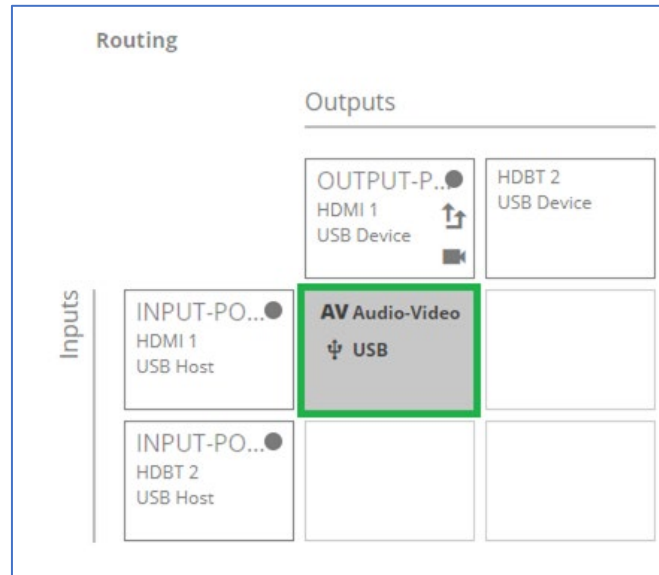
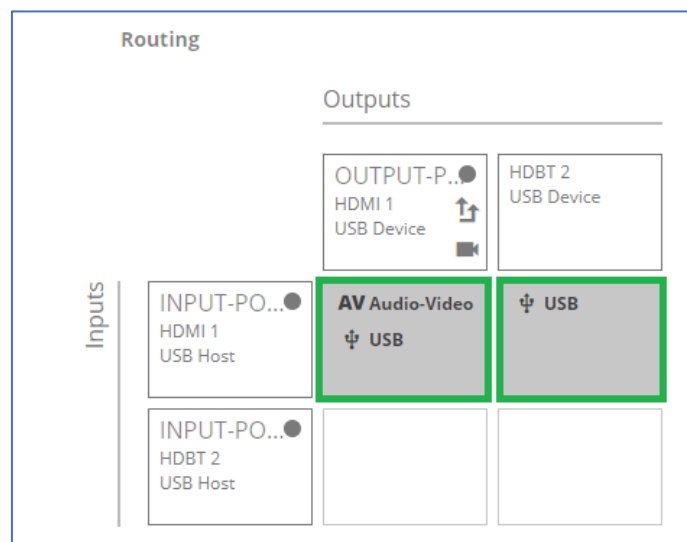

Figure 14: Selecting Local Active Host for Connection to Local USB Devices Only
Figure 15: Selecting Local Active Host for Connection to both Local and Remote USB Devices
Outputs: 1xHDBT, Mirrored 1xHDMI	Output Devices: 3xUSB-A (local) + Rx USB devices (remote)  USB local devices are always connected to active Host. Remote USB devices connection to local active Host is configurable (see <a href="#">Figure 14</a> & <a href="#">Figure 15</a> ).
Outputs: 1xHDMI	Output Devices: 3xUSB-A (local) + Tx USB devices (remote)  USB local devices are always connected to active Host. Remote USB devices connections to local active Host is configurable (see <a href="#">Figure 14</a> & <a href="#">Figure 15</a> ).
2. Click the Input/Output cross-point **HDMI 1USB Host** shown in (see Figure 14).
- Click the Input/Output cross-point **HDBT 2 USB Host** in addition to selected **HDMI 1USB Host** (see Figure 15).